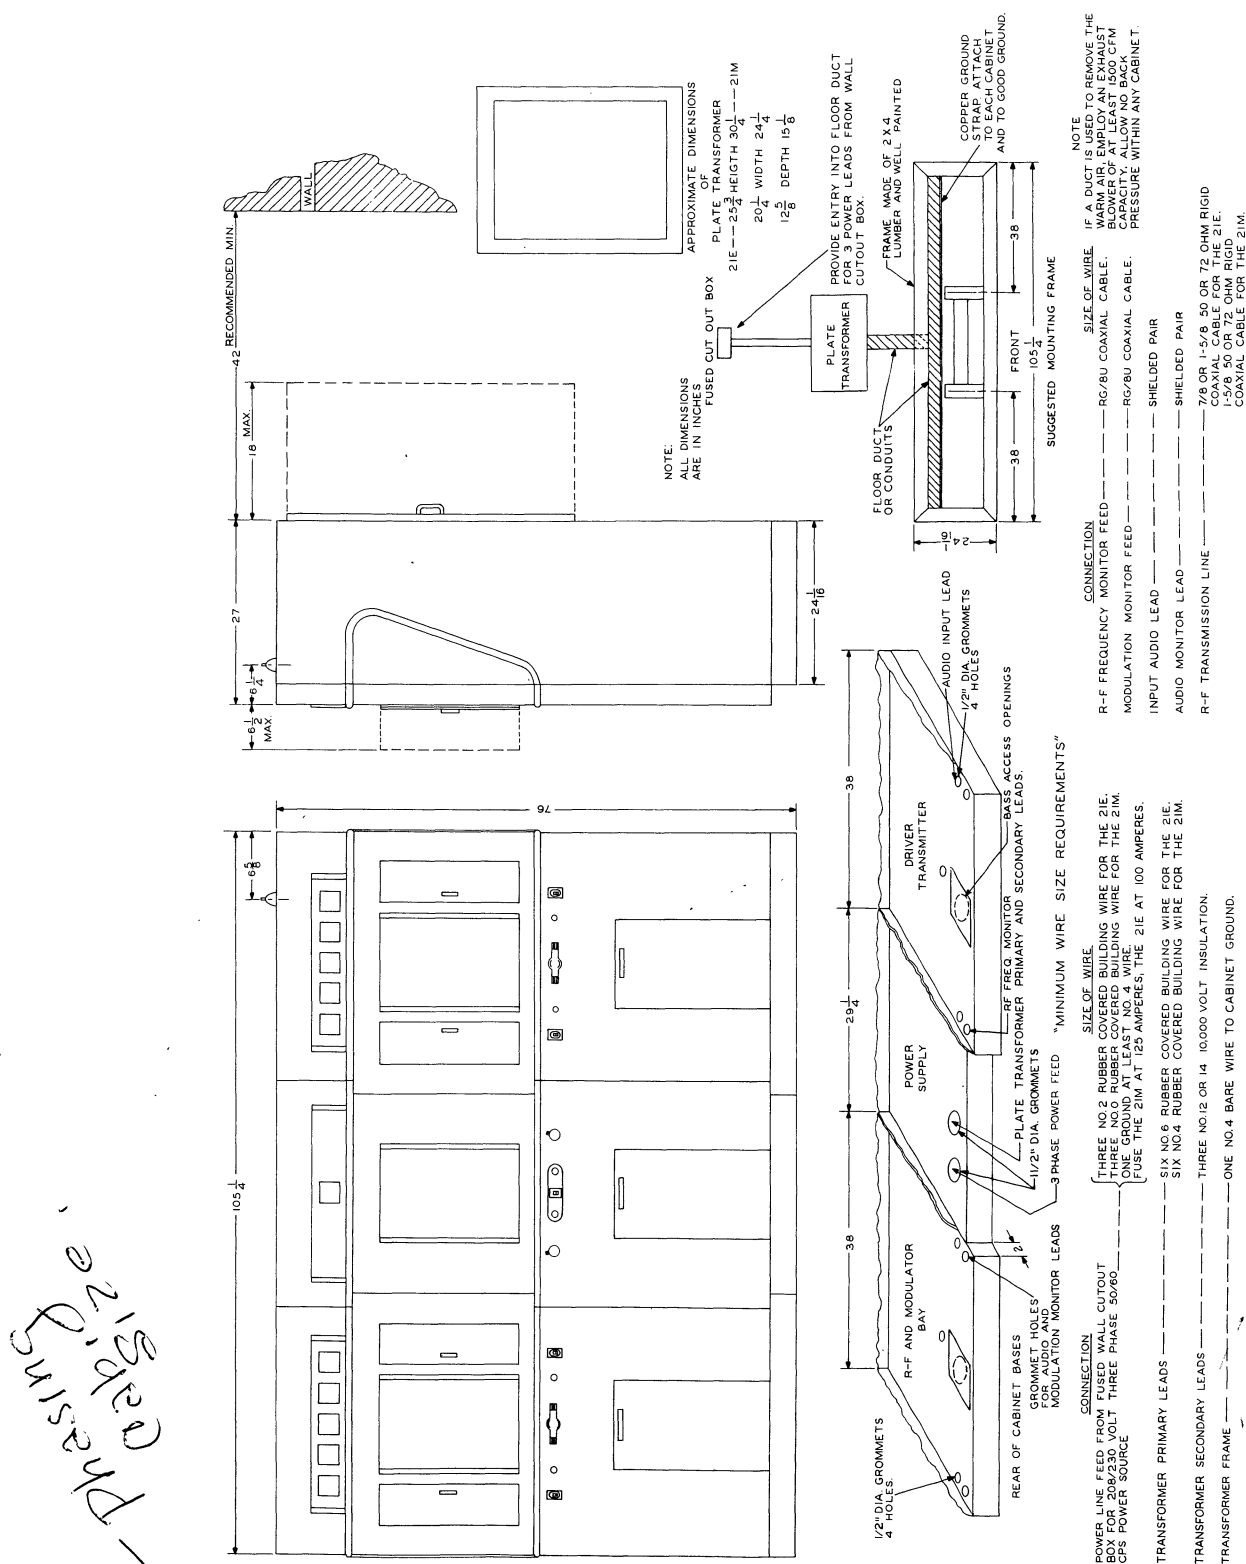
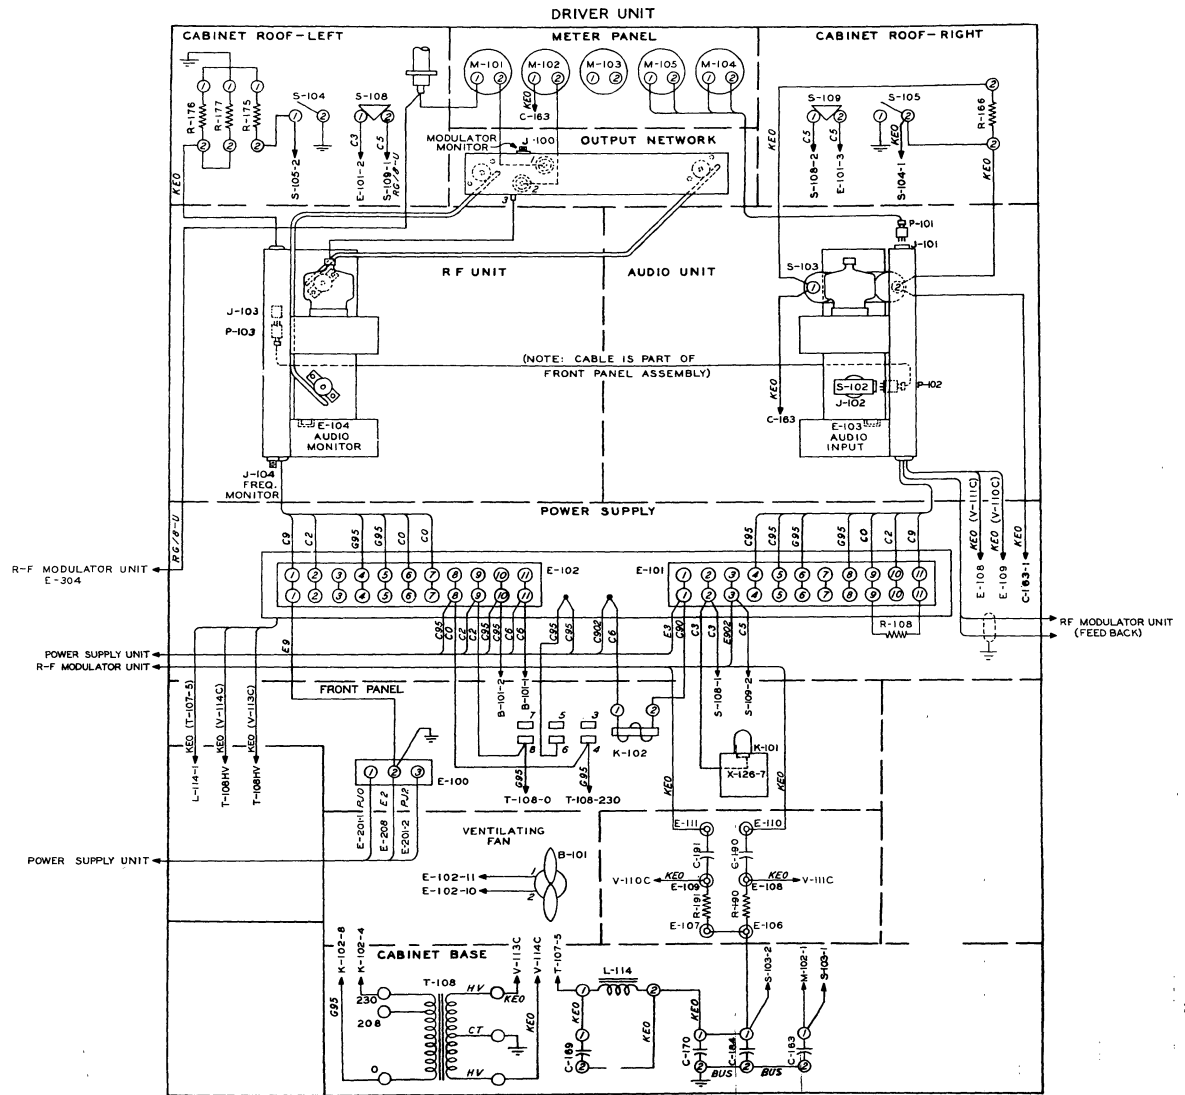

Figure 2-1. Installation Drawing.
Figure 2-4. Driver Cabinet Installation Connections.
2.3.1. MOUNTING POSITION. The important consideration in selecting a mounting position is to provide adequate room for operating and servicing the equipment. Figure 2-1 shows overall dimensions and clearance dimensions as well as all other pertinent data concerning the mounting of the transmitter.
The mounting frame shown in figure 2-1 is adequate and recommended.
2.3.3. ELECTRICAL DUCTS. Provide a duct in the floor as shown in figure 2-1 in which to run the power leads. This duct should be clean and dry with provisions to maintain these conditions.
2.3.4. GROUND STRAP. See figure 2-1. Install a heavy copper strap along the front edge of the duct that is under the transmitter. Attach this ground strap to the building and antenna ground system. Attach adequate length (for instance, 5 feet) of number 6 copper wire to the ground strap at points underneath each cabinet and neatly coil preparatory to setting the cabinets on the frame. Run a number 4 ground wire from the ground strap back to the plate transformer position for transformer grounding.
2.3.5. POWER SOURCE. For the 2LE, provide a 230 volt 3 phase power source capable of 20 KW (35 KW for 2LM) for the transmitter alone, all other sources of load extra. Install a three-phase, metal, cut-out box, independent of other loads, with 100 ampere fuses for the 2LE and 125 ampere for the 2LM and connect it to the transmitter/plate transformer duct with a metal conduit of 2" minimum diameter. Observe standard electrical conduit grounding practices but be sure that the conduit is grounded with number 4 wire to the transmitter ground strap, too. See figure 2-1 for primary wire sizes.
2.3.6. DUCT WIRING. The following wires should be placed in the duct and arranged so that they can be pulled through the proper holes in the cabinet bases: (See figure 2-1 for suggested minimum wire sizes).
2.3.7. OUTPUT CONNECTION. Normally the transmitter output connection is to a feed-thru on the roof of the power amplifier cabinet. See figure 2-1. If it is desired to route the transmitter output out the base of the cabinet and into the duct, a hole that will pass the transmission line will have to be drilled into the base of the power amplifier cabinet. This must be done before mounting any heavy components in the cabinet. A ground lug is provided adjacent to the output feed-thru in the roof of the power amplifier cabinet to ground the outer conductor of the rigid transmission line. Use a 7/8" or 1-5/8" line for the 21E and a 1-5/8" line for the 21M of the impedance value established in the sales contract. (Either 50 or 72 ohms.)
a. Place the power cabinet frame in the center position on the mounting frame; shove the associated power wires and ground wire through the base holes progressively as the power cabinet frame is shoved into position. See figure 2-1. Remove the wooden wedges from between the front panel and the frame. Do not tighten the panel screws further, the looseness of the panel will be taken out when the other two cabinets are positioned.
i. Complete all internal connections including inter-chassis cables and connections to terminal boards E-101 and E-102 on the rear of the low voltage power shelf. Refer to the Installation Connections Diagram, figure 2-4, to the Inter-Unit Cabling Diagram, figure 8-4, and to tags on the wires for assistance in making the proper connections.
Nine wires connect the high voltage power transformer T-204 to connector blocks E-202, E-203 and E-209. See figure 2-1. These wires enter the power cabinet through the right-hand 1 1/2" grommet. Cut these to length and connect them to their terminations with solder lugs. Be very careful to observe correct phasing here. See cabling schematic figure 8-5. Incorrect phasing will result in shortened rectifier tube life.
The audio signal should be brought into the transmitter cabinet on a shielded twisted pair. Use the audio input hole illustrated in figure 2-1 for these wires. The wires may be run up the rear corner channel, avoiding the hinges to prevent damage to the wires. The audio input connections are made to terminal board E-103 located inside the lower shelf of the driver cabinet audio chassis. The location of this terminal board can be seen in figure 7-12. Connect the two leads of the twisted pair to terminals 1 and 2 of E-103. Connect the shield to terminal 3 of E-103.
Coaxial frequency monitor connector J-104 is located on the bottom of the rf chassis as shown in figure 2-4. The transmitter is shipped with a mating plug connected to J-104. Bring a piece of RG-8/U coaxial cable through the proper hole in the floor of the cabinet as shown in figure 2-1. Connect the coax to the plug associated with connector J-302.
Coaxial modulation monitor connector J-302 is supplied with the proper mating plug. Figure 2-4 shows this connector located on the top of the rf output network box. Thread a piece of RG-8/U coaxial cable through the proper hole in the floor of the cabinet as shown in figure 7-5. Connect the coax to the plug associated with connector J-302.
A shielded twisted pair should be used for the audio monitor connections. Bring this wire through one of the monitoring lead holes in the bottom of the cabinet. These holes are indicated in figure 2-1. The audio monitor terminal board, E-301 is located on the right hand (viewed from rear) side wall of the amplifier cabinet about half way up from the base. Connect one wire of the shielded twisted pair to the high terminal on E-301. Connect the remaining wire and the grounded shield to the grounded terminal. Use extreme care in the routing of this wire to clear high voltage points associated with the modulator and feed-back divider.